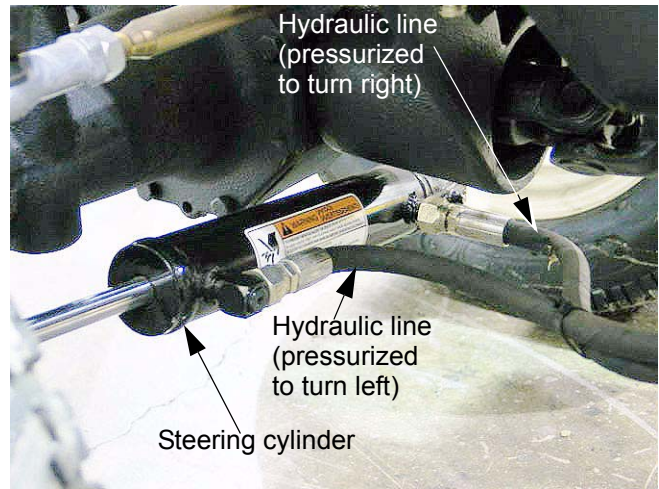

Figure 7.11
7.11. Disconnect the hydraulic line between the steering unit and the steering cylinder using a 5/8" wrench and a 3/4" wrench. See Figure 7.11.
- If the test kit is attached (as illustrated in figure 7.11) to the fitting at the base end of the cylinder, turn the steering wheel to the right.